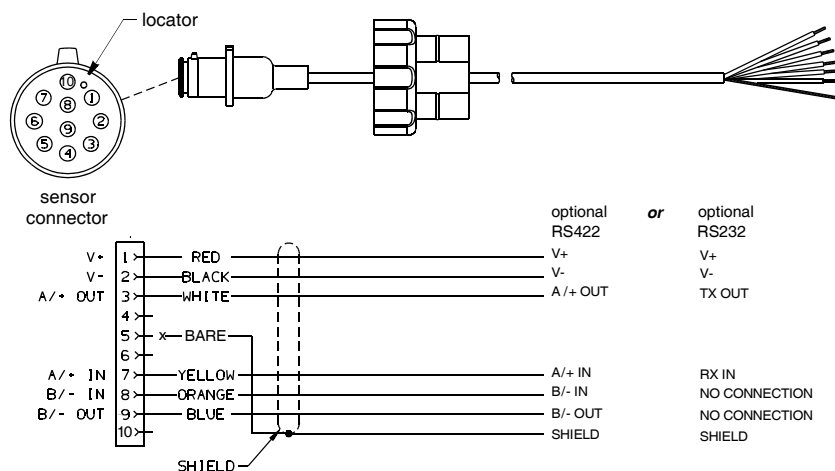

Figure 5. NMEA 0183 Sensor Cable
If your sensor cable does not have a connector on the display end, it must be hard wired. Referring to the owner's manual that came with your display, connect the colored wires as shown in Figure 5.
CAUTION: Your sensor has either an RS-422 or RS-232 standard. You must follow the wiring diagram in Figure 5 that matches your sensor. If the sensor is wired for the wrong standard, it will not transmit and receive data properly.
2. Strip 60 mm (2-1/2") of the outer jacket and foil shielding from the cut end of the cable (Figure 5).